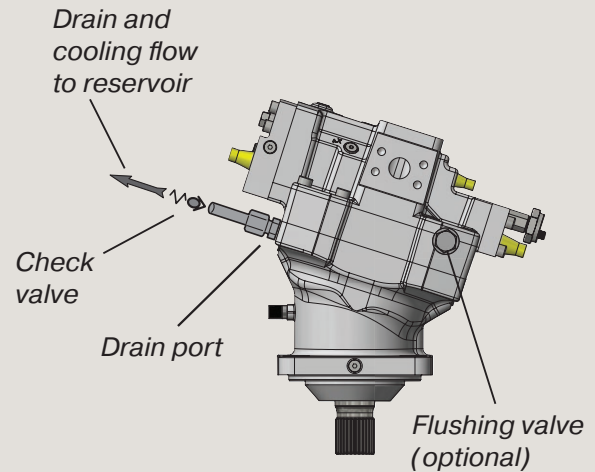

Fig. 2
Refer to fig. 2 (next page).
**Note:** A drain line spring loaded check valve (shown in fig. 2, 3 and 4) may have to be installed in order to prevent oil from being siphoned out of the motor case. This can otherwise happen e.g. if the reservoir is located below the utilized motor drain port.